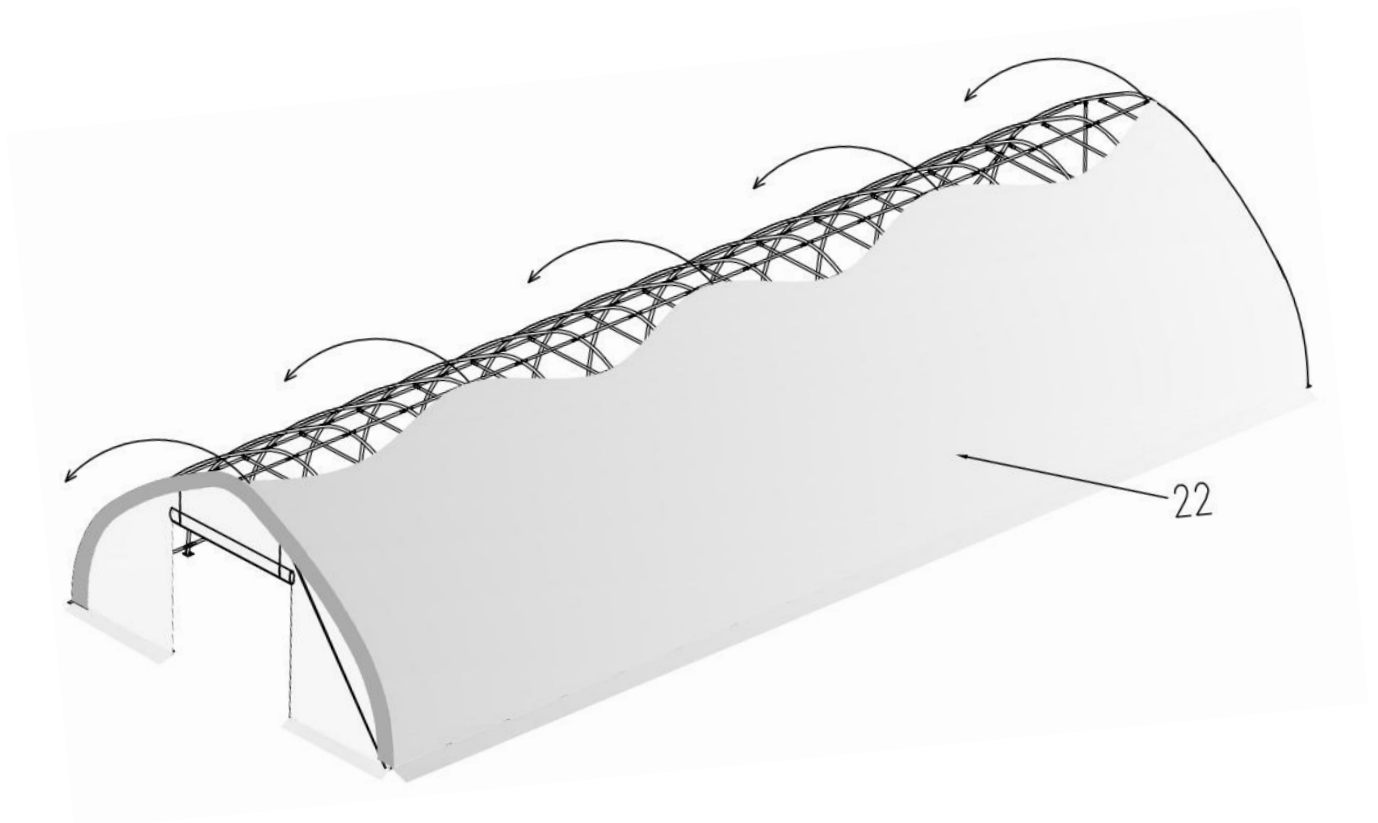

Figure 11
- Use 3 to 5 ropes (#24) to pull the top cover (#22) the top of the structure, 2 or 3 people standing inside on ladders to push upwards will help to move the cover smooth without any damage (figure 11).